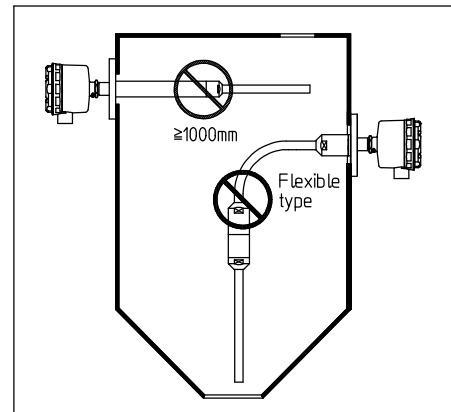

Fig. 5-10
- (10) Do not mount VL33 (flexible type) horizontally, or faulty operation may result.
- (11) Ensure the detecting pipe ($\phi 17.3\text{mm}$, 270mm long) will not contact standpipe wall, hopper bottom or walls to avoid faulty operation.
- (12) Do not mount VL23 (long type) longer than 1m horizontally. Otherwise the extension pipe may be bent or come off due to material load. (Fig. 5-10)